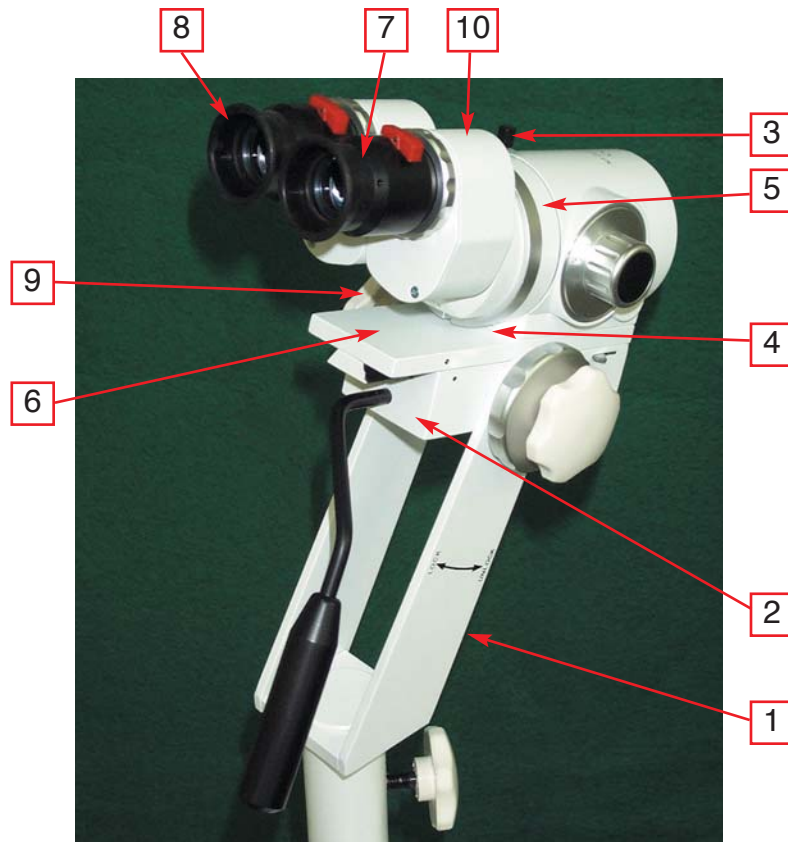

Fig. 2
Refer to the figure 2, the parts shown with numbers, their nomenclature and the following instructions, to set the binoculars.
The Eye Protectors (8) are threaded to the Binoculars as shown in the figure 2.
With the straight binoculars the action of separation or approach is made in a soft and semi-rotation movement, in both of the prism boxes. See Fig 2 (item 10) of the section "The Colposcope Binocular".